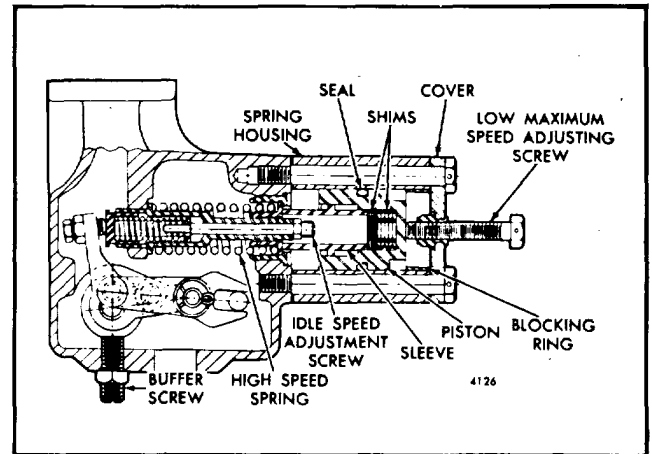

Fig. 6 Current Dual Range Governor
With the spring housing assembly mounted on the governor, the piston and sleeve assembled with four .100" shims and ten .010" shims as illustrated in Fig. 6, and the low maximum speed screw extending from the spring housing approximately 1-1/4", proceed as follows:
- 2 With the engine at normal operating temperature and with the buffer screw, Fig 6, backed out to avoid contact with the differential lever, engine is operating at approximately 15 rpm below the recommended idle speed. The recommended idle speed is 450 rpm but may vary with engine applications.